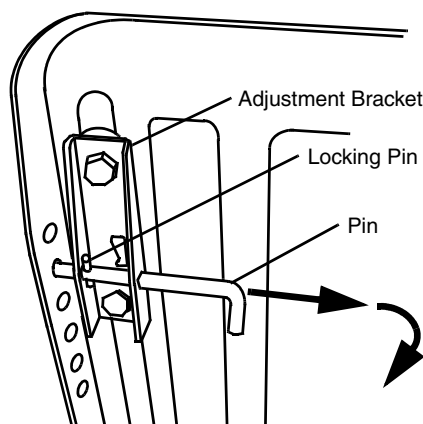

FIG. 12
- Pivot seat forward on its mounting bracket. (See FIG. 12)